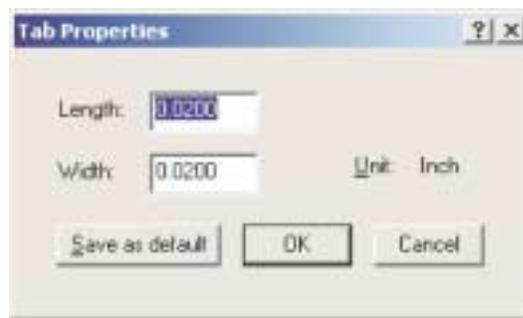

Figure 22. Tab Properties dialog box
1. Select **Draw | Tab Properties** to open the Tab Properties dialog box (see Figure 22) and set the length and width of tabs.